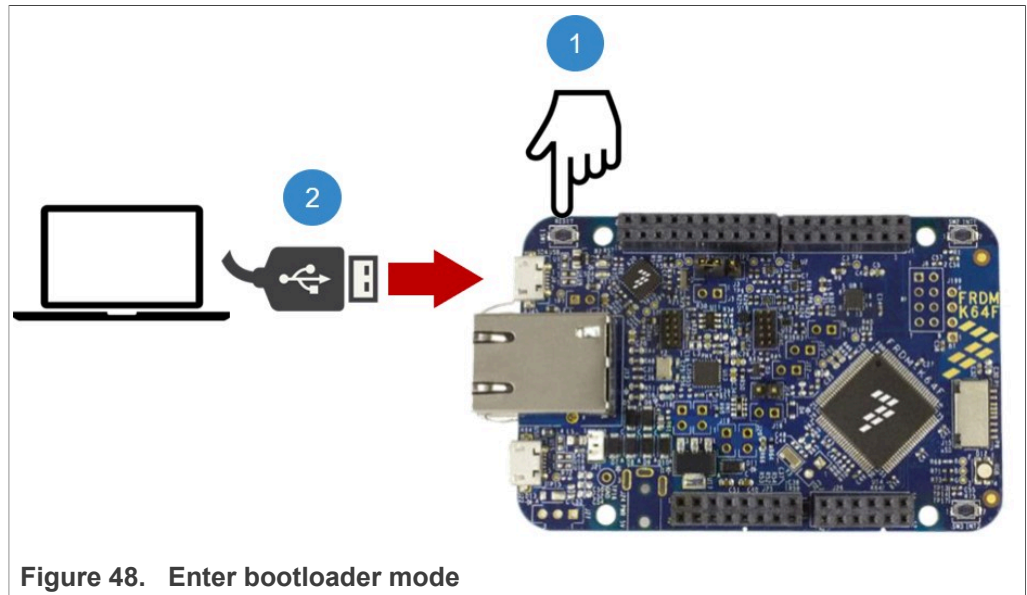

Figure 48. Enter bootloader mode
4. Start the board's bootloader mode. To do so, (1) keep reset button pressed while (2) connecting the USB cable to the SDA USB port and release it after 1s (Figure 48):